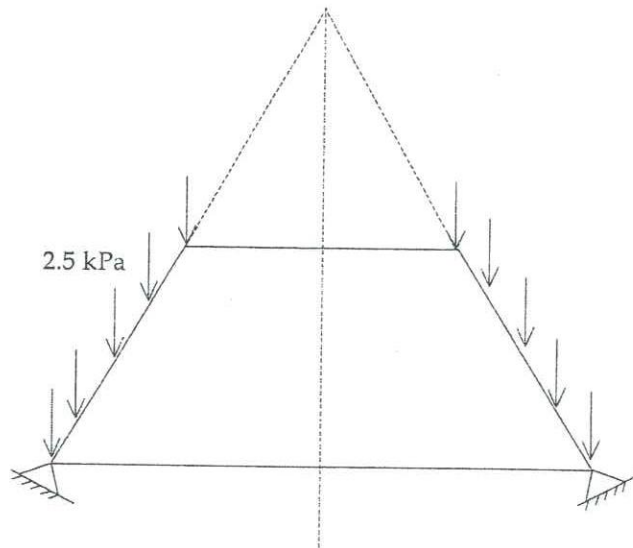

Figure Q5
- b) A planetarium dome may be approximated as an edge-supported truncated cone, as shown in Figure Q5. The load acting on the shell is its self-weight of 2.5 kPa per unit surface area. Assume that the dome is constructed of 12 cm thick concrete having the radii of the parallel circles equal to 40 m at the base and 25 m at the top, respectively. Determine the membrane stresses in the dome.